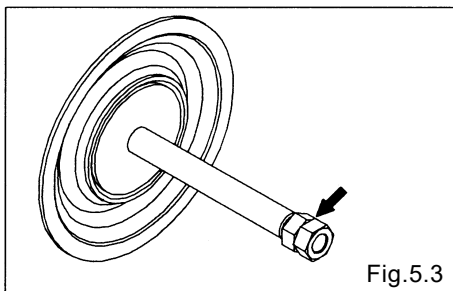

Fig.5.3
- Remove the nut on the opposite side using the double nut. Then, remove the coned disk spring, center disk and diaphragm. (excluding 500BS_) [Fig.5.3]
- Remove the center disk (outside) on the opposite side using the double nut. Then, remove the center disk (inside)and diaphragm. (only 500BS_) [Fig.5.3]